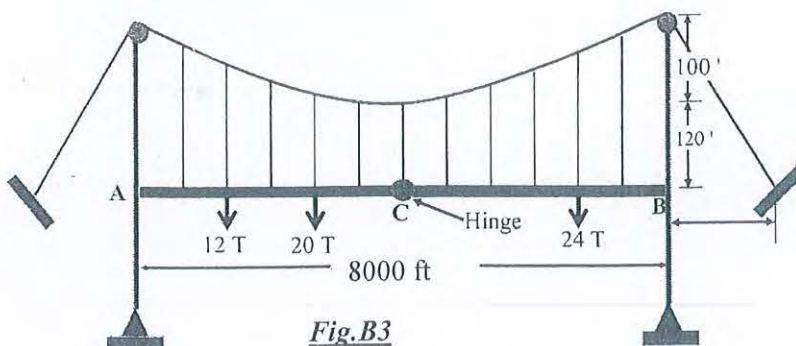

Fig.B3
3. Analyze a cable-suspended bridge is shown in *Fig.B3*. The Ends of the cables are attached to saddles on the roller at the top of the piers. Determine the followings: